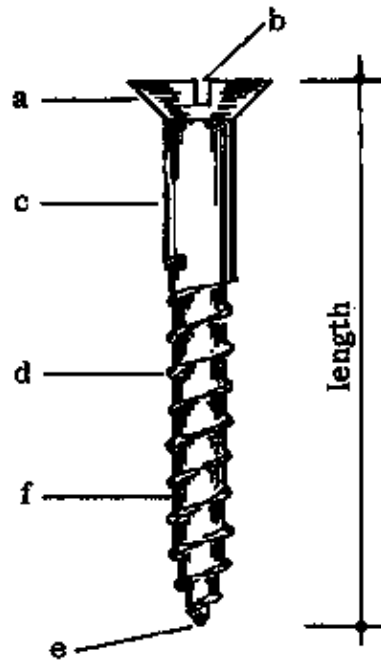

Fig. 1
- Countersunk head screws (Fig. 1, page 210)
– **COUNTERSUNK HEAD SCREWS:** The head of this kind of screw is flat on top and tapering underneath. The length is measured from the point to the top of the head (Fig. 1, page 210).